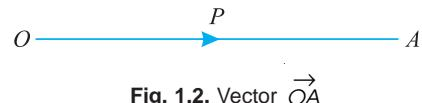

Fig. 1.2. Vector  $\overrightarrow{OA}$
1. **Representation of a vector.** A vector is represented by a directed line as shown in Fig. 1.2. It may be noted that the length  $OA$  represents the magnitude of the vector  $\overrightarrow{OA}$ . The direction of the vector is  $\overrightarrow{OA}$  is from  $O$  (i.e., starting point) to  $A$  (i.e., end point). It is also known as vector  $P$ .